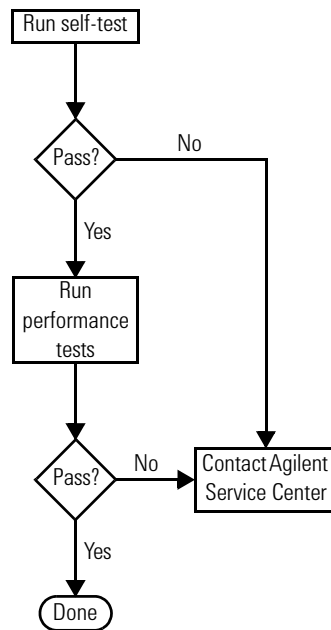

Figure 1-1 Process flow for self-test, performance tests, and repair
- Figure 1-1 Process flow for self-test, performance tests, and repair 2
Figure 1-1 illustrates the process flow for carrying out the self-test, performance tests, and repair.